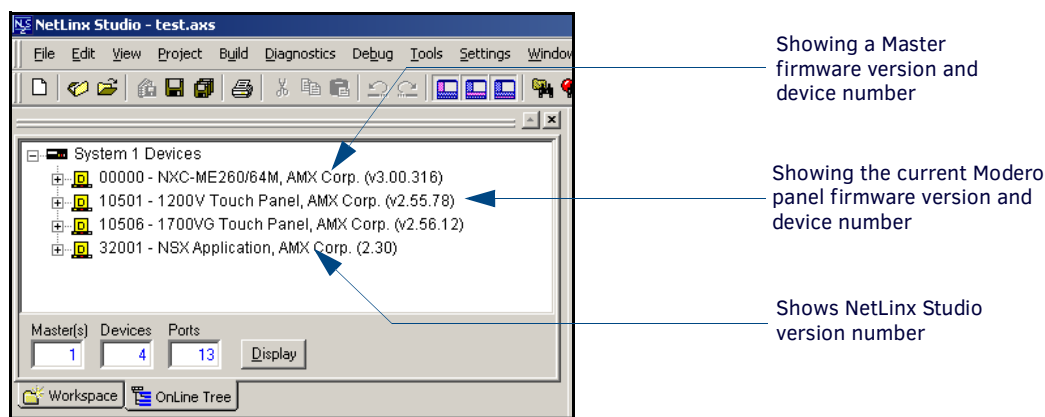

FIG. 91 NetLink Workspace window (showing panel connection via a Virtual NetLink Master)
3. After the Communication Verification dialog window verifies active communication between the Virtual Master and the panel, click the **OnLine Tree** tab in the Workspace window (FIG. 91) to view the devices on the Virtual System. *The default System value is one.*
4. Right-click on the System entry (FIG. 91) and select **Refresh System** to re-populate the list. Verify the panel appears in the **OnLine Tree** tab of the Workspace window. *The default Modero panel value is 10001.*